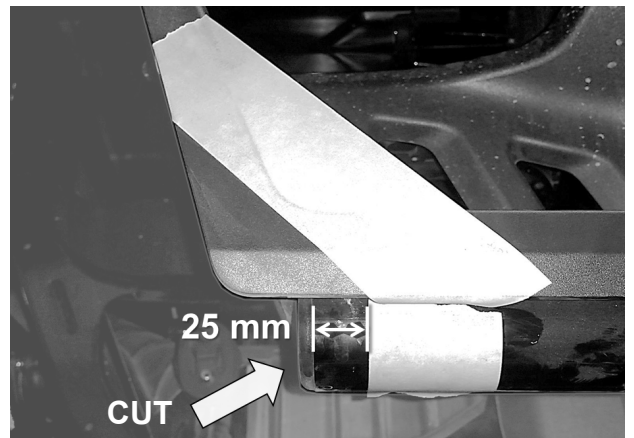

Fig. 29
4. The footrest support frame tubing must be cut back. The tube must be shortened 25 mm [1 inch] in length. The plastic cap at the end of the tube must be reinstalled in its new location. See Fig. 29